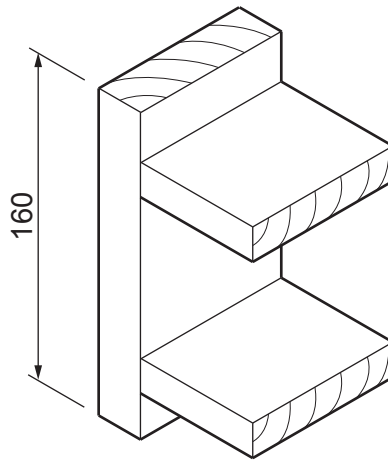

Fig. 6.1
- 6 Fig. 6.1 shows a hardwood bracket. The bracket has been fabricated using hardwood.